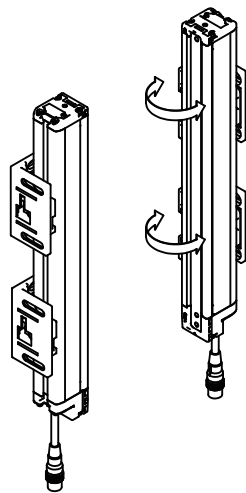
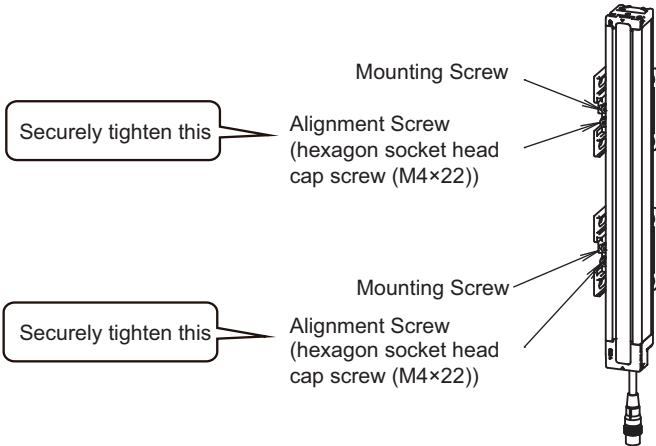

Fig. 4
Fig. 6
Move the emitter and receiver from side to side (Fig. 4) to align them to a center position where the Stable-state indicator (STB, green) of the receiver is illuminated while checking the state of the top and bottom beams with the Top-beam-state indicator (TOP, blue) and Bottom-beam-state indicator (BTM, blue) of the receiver. (Fig. 6)
5. Securely tighten the Alignment Screws to fix the Free-Location Bracket to the F3SG-R housing. The recommended torque to tighten the Alignment Screws is 3.0 N•m. (Fig. 6)